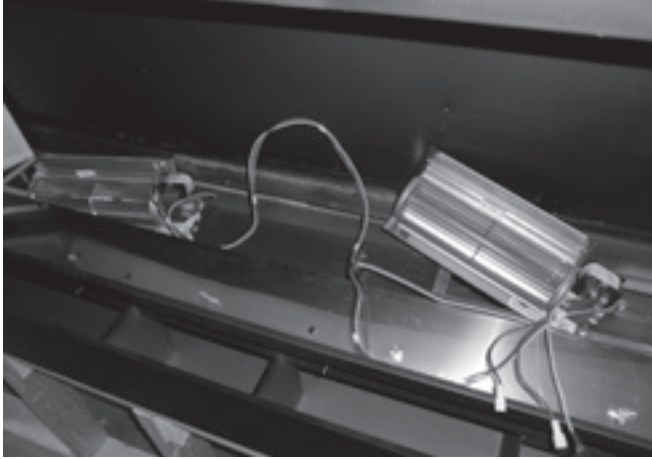

Figure 19
15. Set the two blower assemblies on the firebox bottom as shown in **Figure 19**.